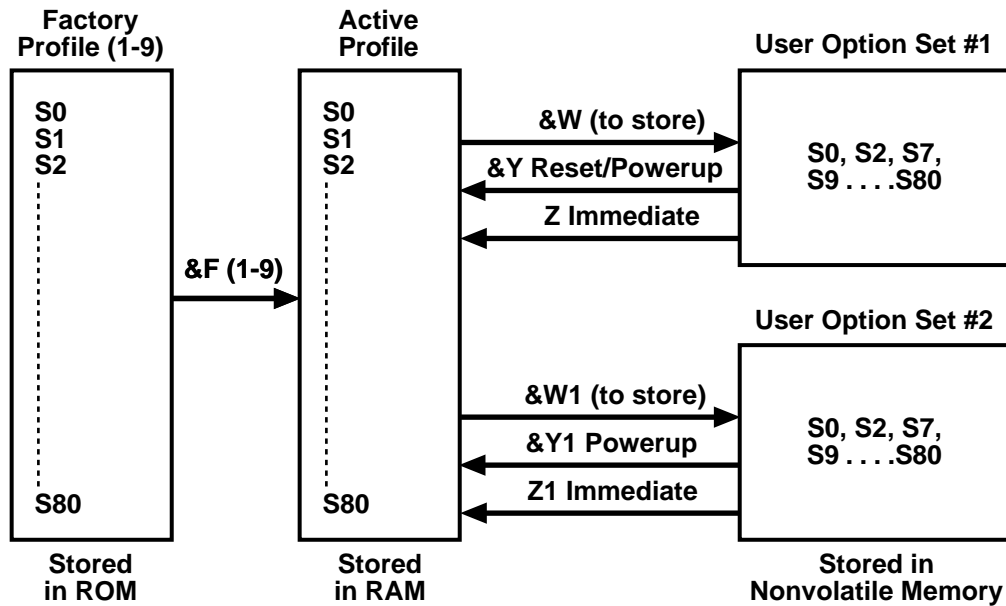

Figure 6-1. Configuration Storage and Recall.
**Figure 6-1** illustrates configuration storage and recall.